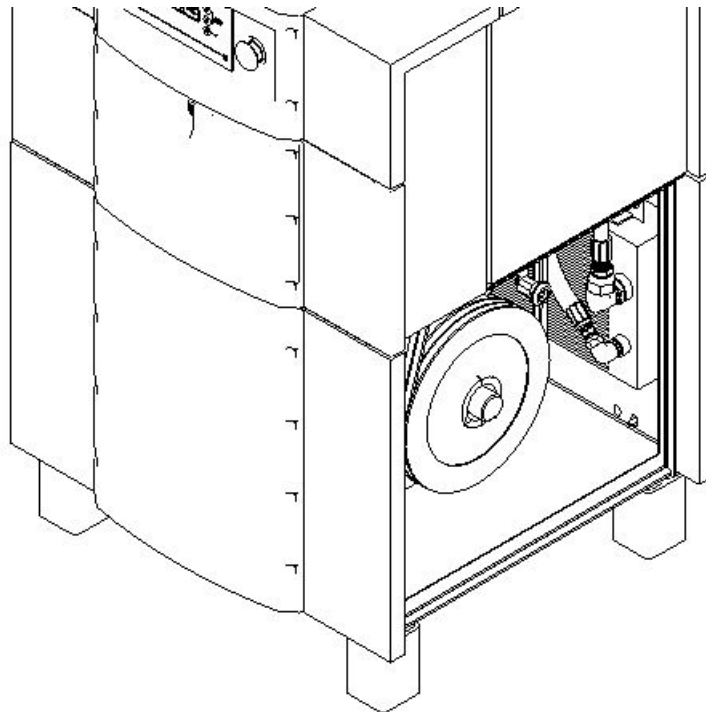

FIGURE 6-2 Cooler Access
2. Open and/or remove enclosure door panel adjacent the cooler assembly, see Figure 6-2 for details.